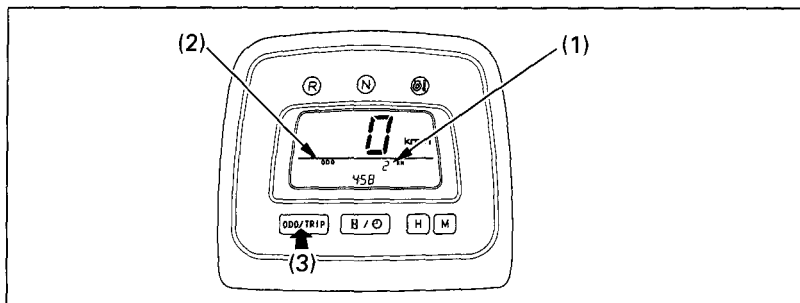

Fig. 2-16 (1) Odometer (3) Odometer/Tripmeter select button
When selected, the odometer (1) (Fig. 2-16) registers total distance traveled in kilometers while the ignition is ON (I). To change the display (2) from tripmeter to odometer, press and release the Odometer/Tripmeter select button (3).